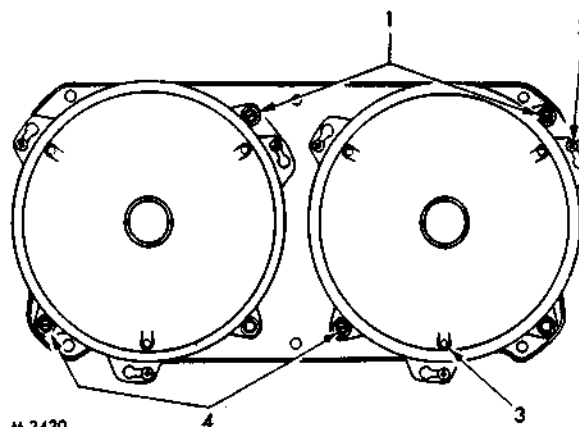

FIG. 3. TYPICAL HEADLAMP INSTALLATION
The sealed beam light units are 146.0 mm (5.75 in), metal backed with non-detachable bulbs. Each is carried in a seating rim which is attached by a three point mounting to the lamp body pressing. Two of the mounting points are adjustable loaded assemblies whilst the third is a hard rubber pivot. Independent movement of the unit in a horizontal or vertical plane is achieved by the adjustment of two screws only, Fig. 3.
**Note:** The adjusting screws are shown in Fig. 3. It is important, when setting lamps, to use a suitable narrow bladed screwdriver in the screw slots, and use a spanner to hold, but not to turn, the locknut.
2. Remove from each lamp the three Philips head screws, Fig. 3 (2). The unit can now be separated from the seating rim, allowing removal of the light unit after its terminal adaptor has been withdrawn.